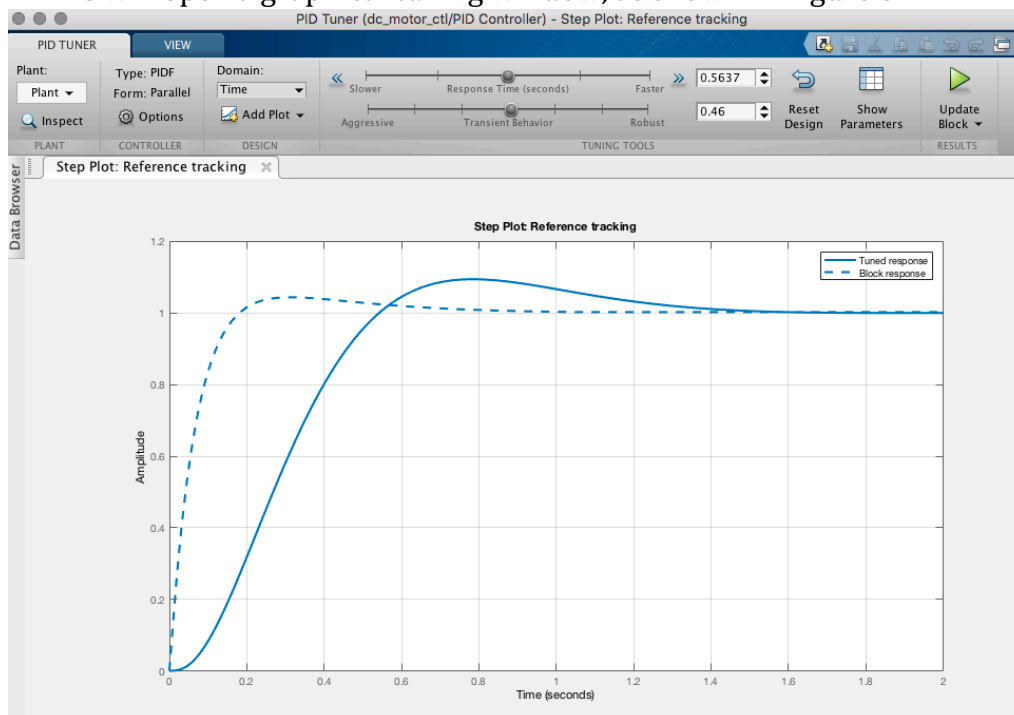

Figure 3: Tuning window.
2. After about 10 iterations, navigate to the PID compensator in the Simulink file. Inside the block, as shown in Figure 2, click the button called Tune... This will open a graphical tuning window, as shown in Figure 3.